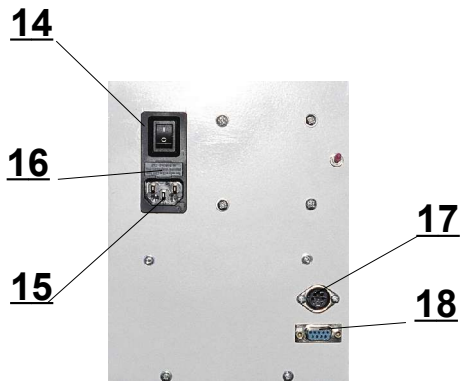

Fig. 2: View on the back part of D-force 1.2
Pump D-force 1 is powered by a voltage 230 V, 50 Hz. Net socket is in upper part of back panel (Fig. 2, position 15). There is a fuse (16) and main switch (14) combined with net socket. External control 5 pin connector